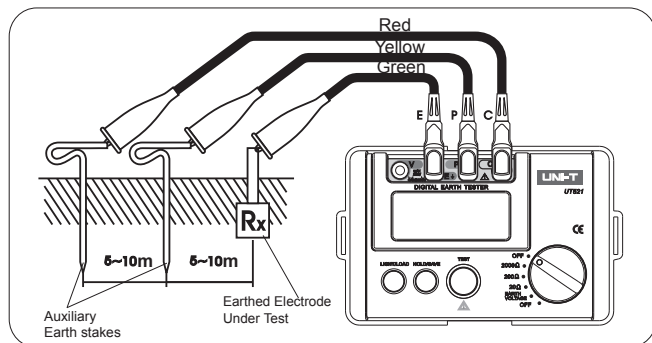

Figure2
- place 2 ground stakes deep into the soil. Earth electrode(E), probe(P) and auxiliary earth (C) should be in a straight line and 5-10m apart from each other. See Figure 2 for the connection.